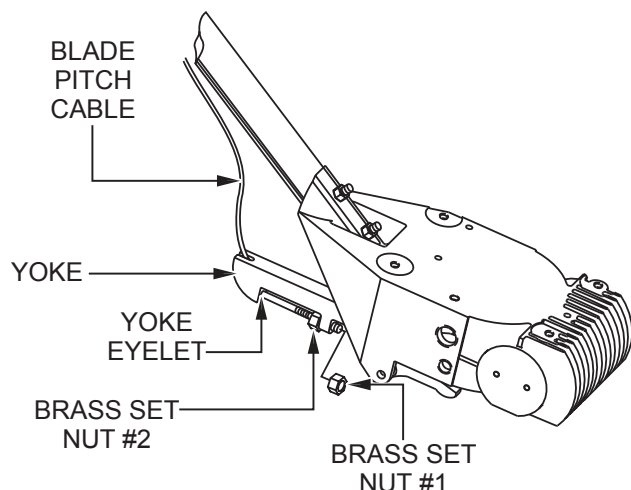

Figure 15. Cable Yoke Attachment
5. Insert the blade pitch cable end through the yoke eyelet (Figure 15). Tighten brass set nut #1 by hand to remove all slack from the cable.